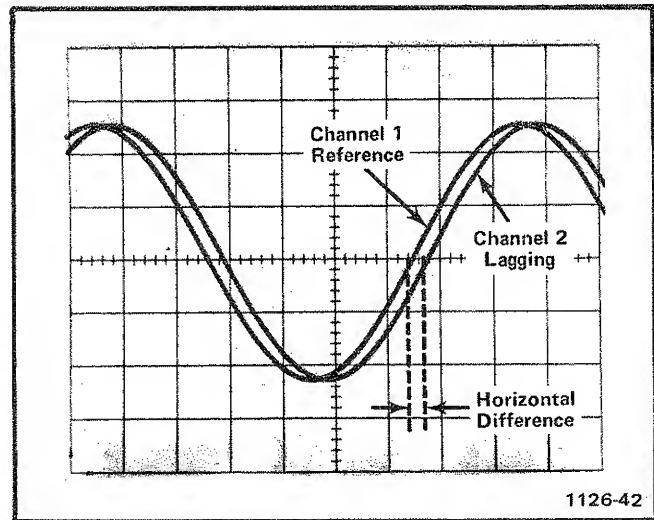

Fig. 2-4. Measuring phase difference between two signals.
8. Adjust the time-base Variable Time/Div control until one cycle of the reference signal occupies exactly eight horizontal divisions between the second and tenth vertical lines of the graticule (see Fig. 2-4). Each division of the graticule represents 45° of the cycle ($360^\circ \div 8 \text{ divisions} = 45^\circ \text{ division}$). The sweep rate can now be stated in terms of degrees as $45^\circ/\text{division}$.
EXAMPLE: Assume a horizontal difference of 0.3 division with a sweep rate of $45^\circ/\text{division}$ as shown in Fig. 2-4.
Fig. 2-4 but with the Magnifier set to X10. With a horizontal difference of 3 divisions, the phase difference is: